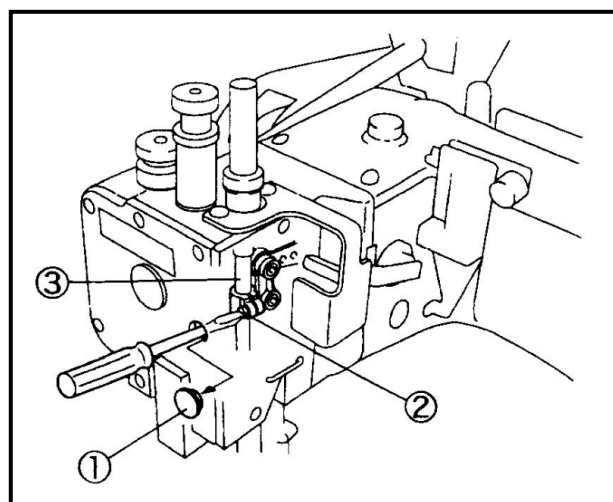
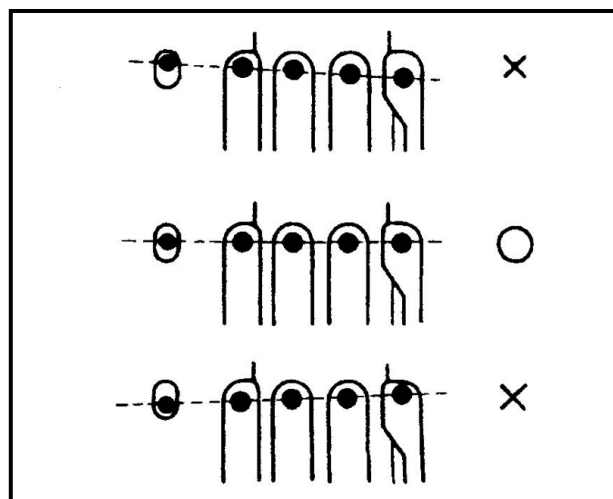

Fig.47
Fig.48
(Fig.48)
- (1) Remove the seal plug①.(Fig.47)
- (2) Loosen the screw②.
- (3) Move the needle bar③up or down to adjust the height. Check the alignment in Fig. 48.
- (4) Tighten the screw②scecruely.
- (5) Reset the seal plug①.